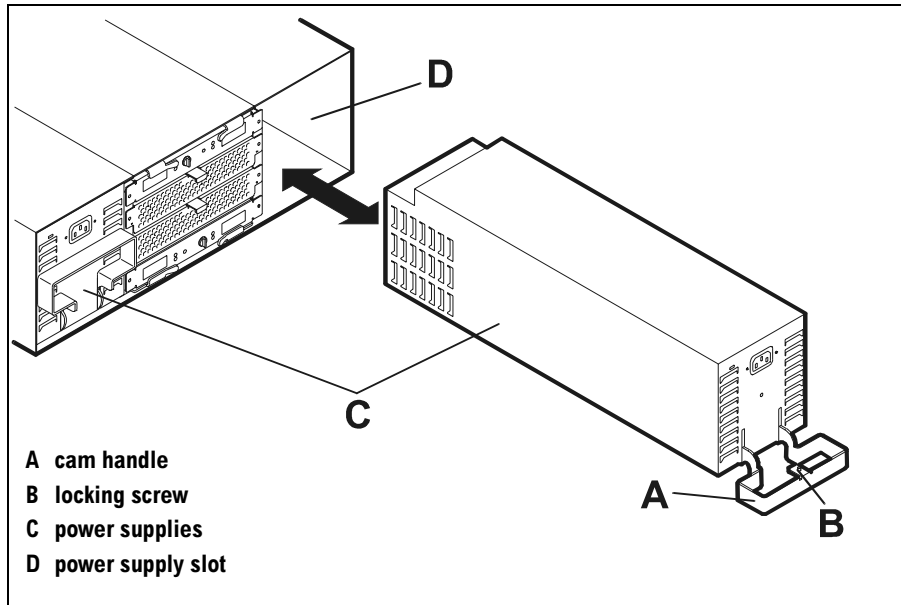

Figure 48 Power Supply Removal and Replacement
2. Loosen the screw (B in Figure 48) from the power supply handle (A).
5. With the handle down, slide the replacement power supply into the empty slot (D in Figure 48). The supply begins to engage the backplane with $\frac{3}{8}$ inch (8 mm) still exposed.
7. Tighten the screw (B) in the power supply handle (A).